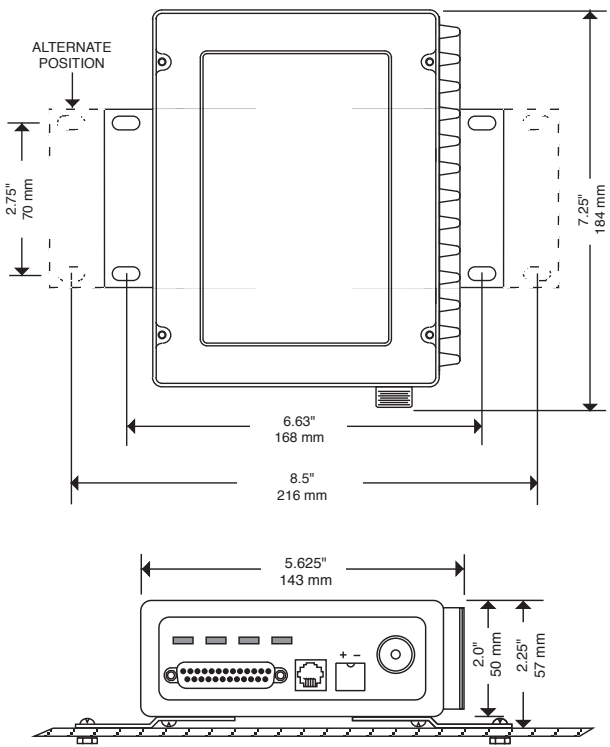

Figure 7. Transceiver Mounting Bracket Dimensions
1. **Mount the transceiver to a stable surface** using the brackets supplied with the radio. Begin by attaching the radio's mounting brackets to the bottom of the transceiver case (if not already attached) using the four 6-32 x 1/4 inch (6 mm) screws supplied. Figure 7 shows the mounting bracket dimensions.